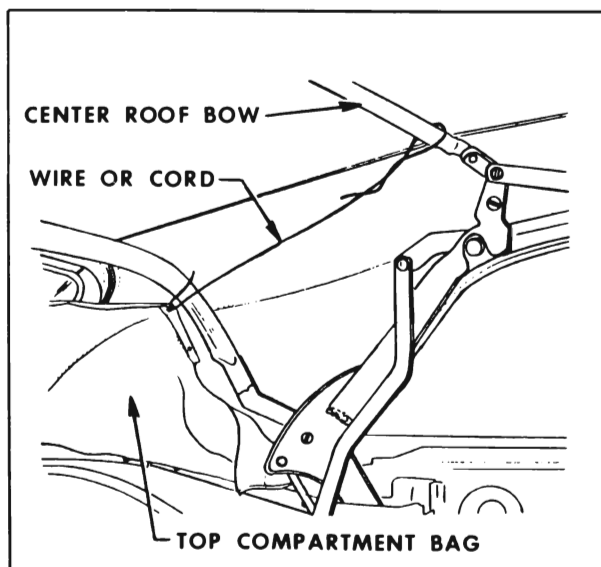

Figure 7-23—Top Bag Tied to Center Roof Bow
5. Detach folding top compartment bag from rear seat back panel, thus exposing rear quarter and rear trim stick attaching bolts. Forward end of top compartment bag may be tied or wired to center roof bow to provide ready access to attaching bolts (see Figure 7-23).